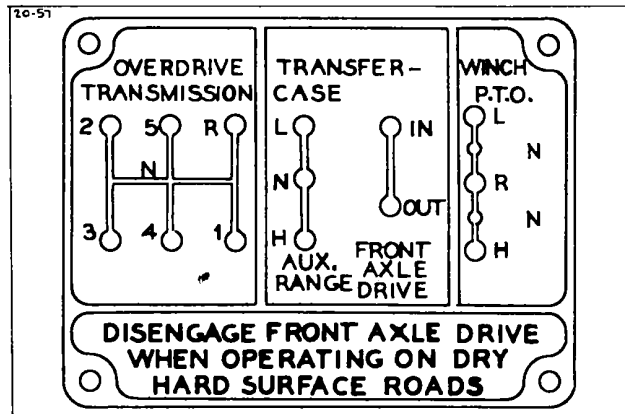

Fig. 2 Transmission, Transfer Case and Power Take-Off Shift Arrangement Plate (Power Take-Off Shift Arrangement Applies Only to Vehicles Equipped With Winch).
| 6. Shifting Arrangement Plate (See Fig. 2.) | 29. Oil Gauge.  |
- A. Hand brake lever (42) should be pulled back to set brakes.
- B. Transmission shift lever (41) and transfer case shift lever (43) must be in neutral position. See shifting diagram.
- C. Pull out hand throttle (14) about 1/2" (20 M.P.H.). This is not necessary if engine is warm.
- D. Pull choke button (17) until 1/2 open to obtain proper fuel and air mixture for starting. This may not be necessary if engine is warm. In extremely cold weather choke may be pulled all the way out.
- E. Insert ignition switch key (13) and turn to "On" position.
- F. Push clutch pedal (36) downward and hold down until after engine starts.
- G. Step on starter pedal (40) to start engine. Release pedal as soon as engine starts.
- A. Push clutch pedal (36) downward to disengage clutch.
- B. If transfer case shifting lever (43) is in neutral position it should be moved into either "high" or "low" speed (See Fig. 2).
- C. Move transmission gear shift lever (41) into "first" speed (see Fig. 2).
- D. Release hand brake lever (42).
- E. Step down on accelerator pedal (38) to speed up engine. Release clutch pedal slowly and push accelerator pedal downward as necessary to prevent engine from stalling while truck starts forward as clutch pedal is released.
- F. As truck speed increases, release accelerator pedal (38), depress clutch pedal, move transmission lever (41) into neutral and then
- Push clutch pedal (36) downward to disengage clutch.
- Move gear shift lever (41) as far as possible to right then toward front. (See Fig. 2). or; plate above cab windshield).